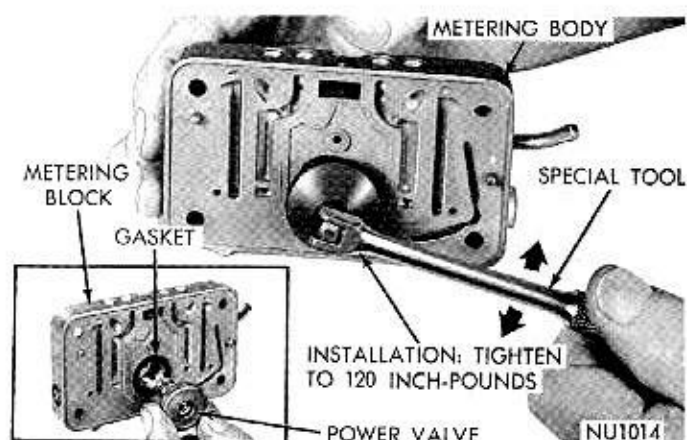

Fig. 15—Removing or Installing Power Valve
(1) Using Tool C-3747, remove power valve assembly from metering body (Fig. 15).
(2) Slide a new gasket over power valve and install in body. Using Tool C-3748, tighten to 120 inch pounds (Fig. 15).
(3) Press a new gasket in each of the idle air mixture ports, then thread idle air mixture screws through gasket and into body, using a small screw-